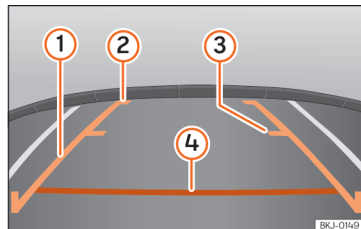

Fig. 167 Display on the Easy Connect system screen: guide lines.
- Vehicle load modifies the representation of the guide lines »» Fig. 167. The width represented by the lines decreases with vehicle load. Pay special attention to the surroundings when the inside of the vehicle or the luggage compartment are loaded.
Meaning of the orientation lines »» Fig. 167